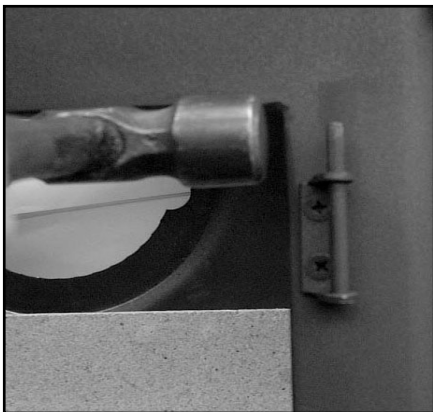

Fig. 9 Adjusting the Sherborne hinges
- Gently tap the two hinge pins in a direction to compensate for the misalignment.(Fig. 9)